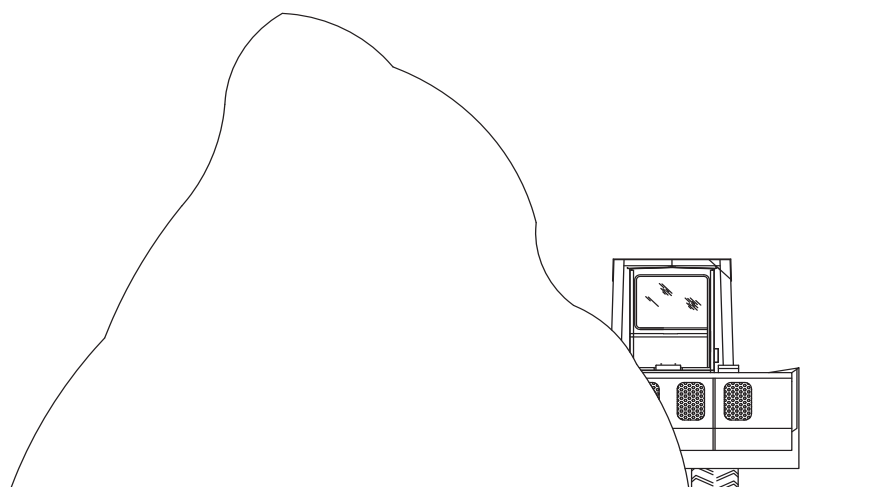

Figure 5-15
2. Do not cut into a cone with the bucket too high. If you enter the pile with the bucket too high, the wheel opposite the pile will be much lower making an uneven cut. Only cut into the cone with the bucket down and level (See Figure 5-15).